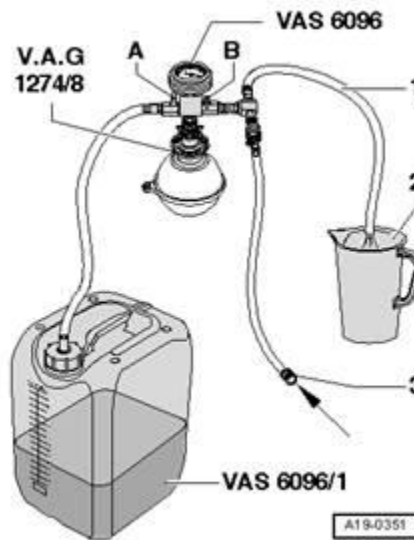

Figure 11. Cooling system filling.
13. Fill the cooling system with plain distilled water (Figure 11). Perform bleeding procedure. Again, set the cabin heating to full hot and HI fan. If equipped, also set the rear HVAC unit to full hot and HI fan. Run the engine at approximately 2000 rpm until the cooling fans activate. Continue to run the engine at this speed for an additional 3 minutes.